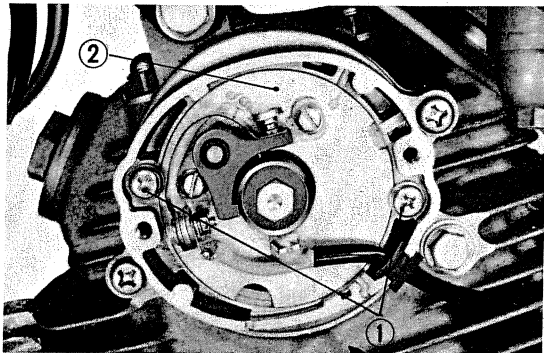

Fig. 7 ① Base plate mounting screw ② Base plate
- 4) If ignition timing is required for adjustment, loosen two base plate mounting screws and move the base plate. Turning the base plate clockwise will retard the timing and counter clockwise will advance it. Tighten the screw after adjustment is made. (Fig. 7)